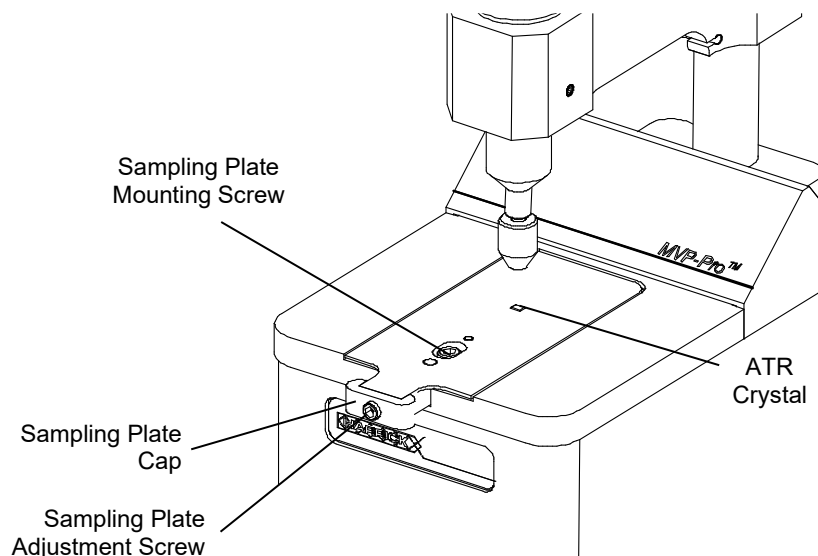

Figure 7 • Adjusting the Sampling Plate
- Loosen the sampling plate mounting screw using the supplied 7/64" ball driver (Figure 7).
- For the MVP-Pro™ with a silicon ATR crystal read the value at 2200 cm⁻¹. The throughput at this wavenumber should be at least 5% and the spectrum should resemble the MVP-Pro™ throughput shown in Figure 7.
- Loosen the mounting screw on the sampling plate to release the sampling plate assembly (Figure 7).